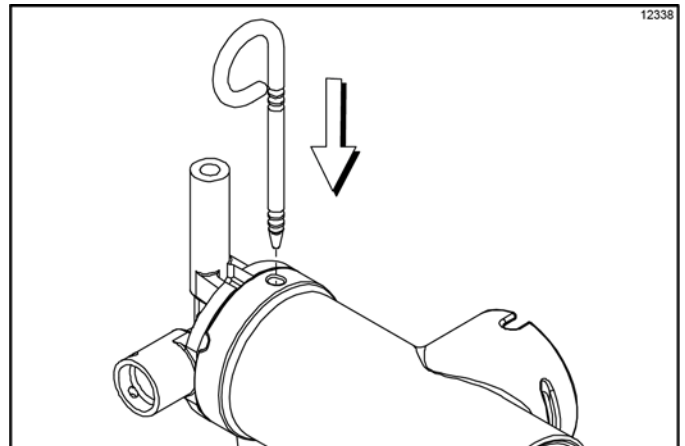

Figure 6-42
9. Secure the pump parts in position by sliding the retaining pin through the cross holes located at one end of the pump cylinder. (See Figure 6-42.)